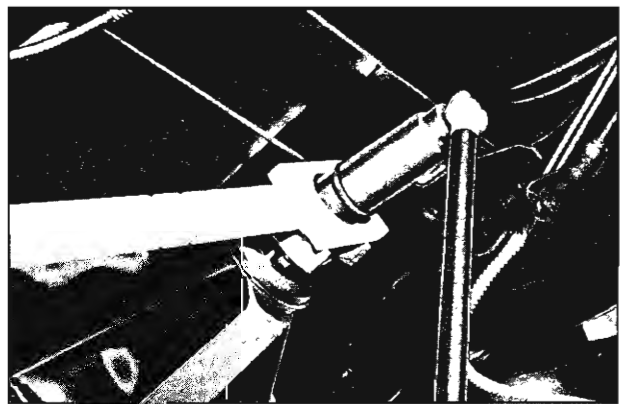

Fig. 11—Installing Companion Flange
10. Install drive flange aligning marks on pinion and flange if old flange is being used. If flange does not go on shaft easily, pull flange on shaft, using Tool J-5780 (fig. 11). The tool is threaded onto pinion shaft and large nut tightened to pull flange on shaft. Remove tool and install special washer and a new self-locking nut.